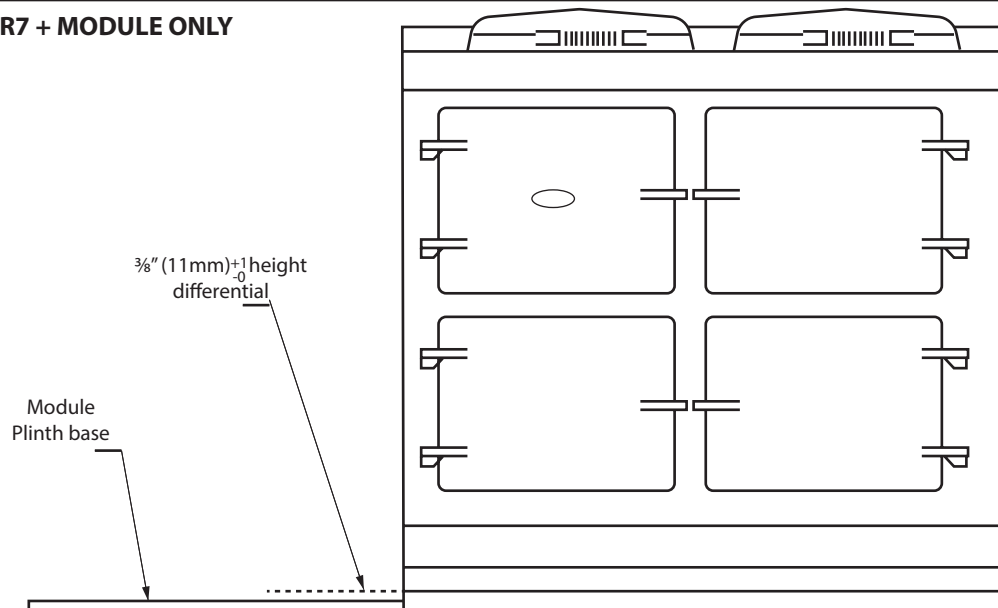
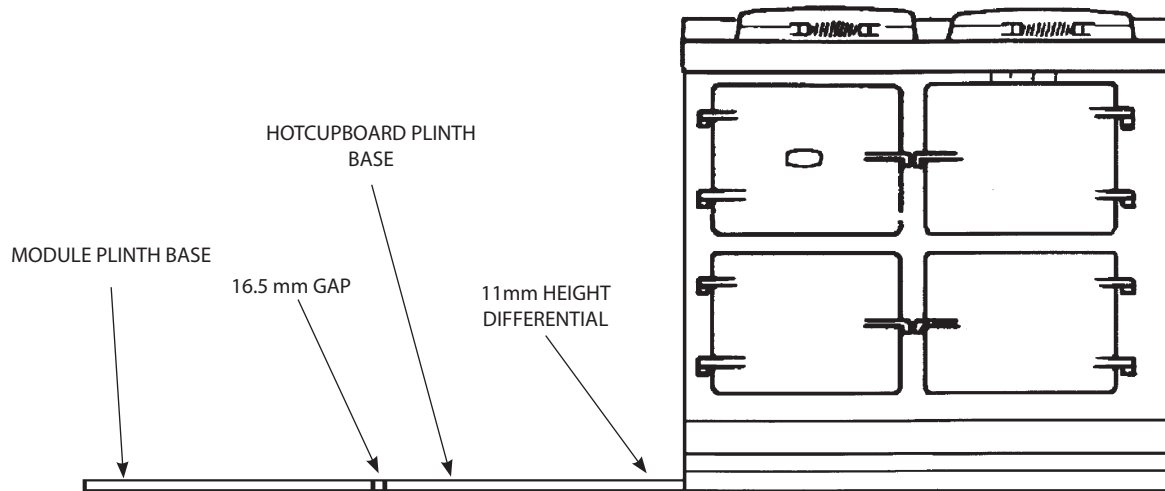

Fig. 10.3
Fig. 10.4
4. The Module plinth can now be levelled and fitted up to the main appliance. Position the Module plinth alongside the AGAR7/eR7 leaving no gap between the two plinths. (See **Fig. 10.3**).
7. Also check height differential between the Module plinth and AGA R7/eR7 plinth is correct: 11 mm. If necessary, use the adjusting studs in each corner to level the plinth. In extreme instances, shims may be used underneath the plinths (See **Fig. 10.3** or **Fig. 10.4**).